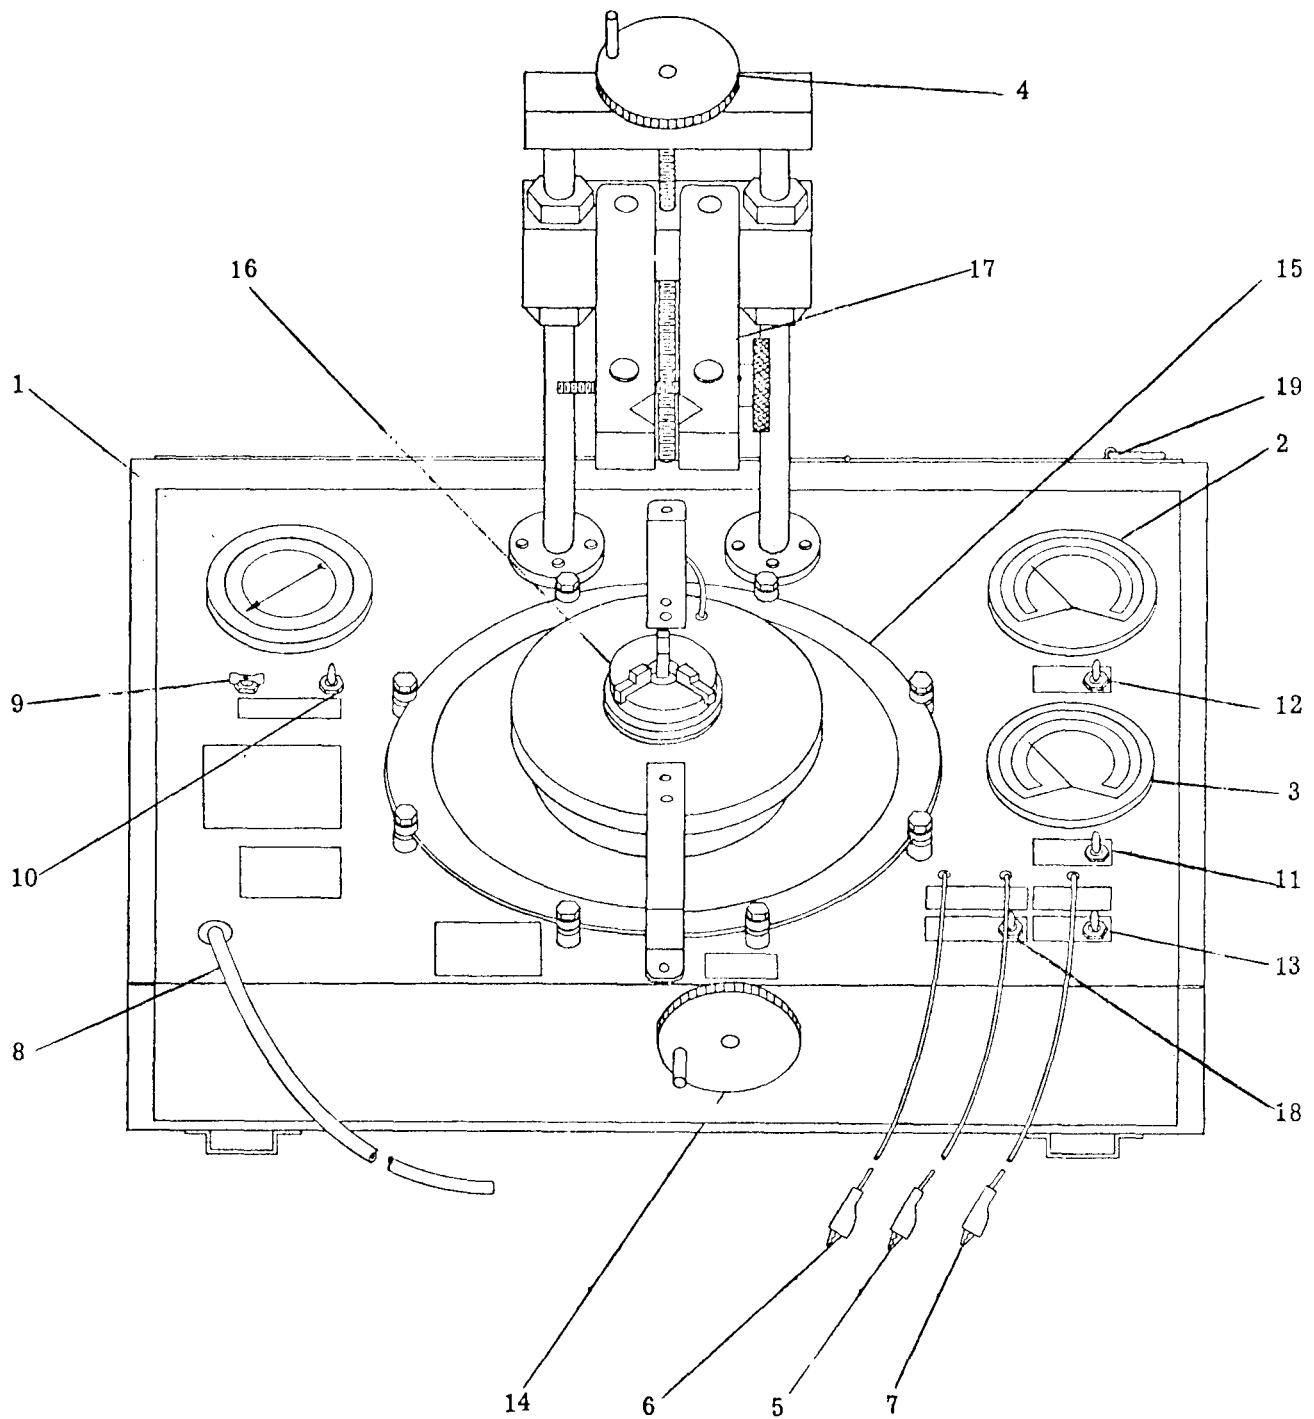

Figure 4-1, Distributor Tester, Configuration
4-2. To facilitate the identification of the instruments and controls, the nomenclature used in this section corresponds with the tester nomenclature. See figure 4-1 and table 4-1.
a. Using the elevation crank (Item 4, Fig. 4-1), raise the clamp arms high enough to permit the distributor shaft to clear the chuck.